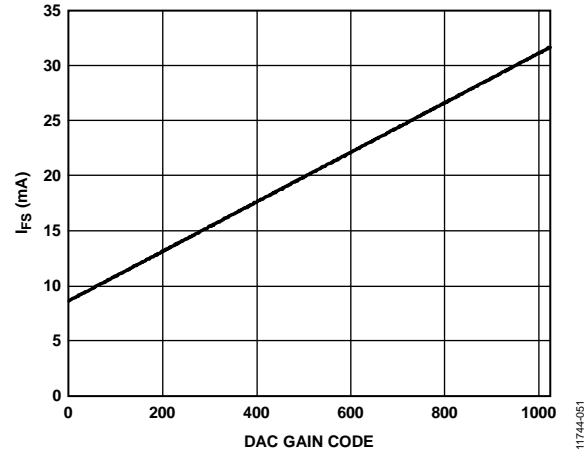

Figure 46. DAC Full-Scale Current vs. DAC Gain Code
For nominal values of  $V_{REF}$  (1.2 V),  $R_{SET}$  (10 kΩ), and DAC gain (512), the full-scale current of the DAC is typically 20 mA. The DAC full-scale current is adjustable from 8.64 mA to 31.68 mA by setting the DAC gain parameter, as shown in Figure 46.